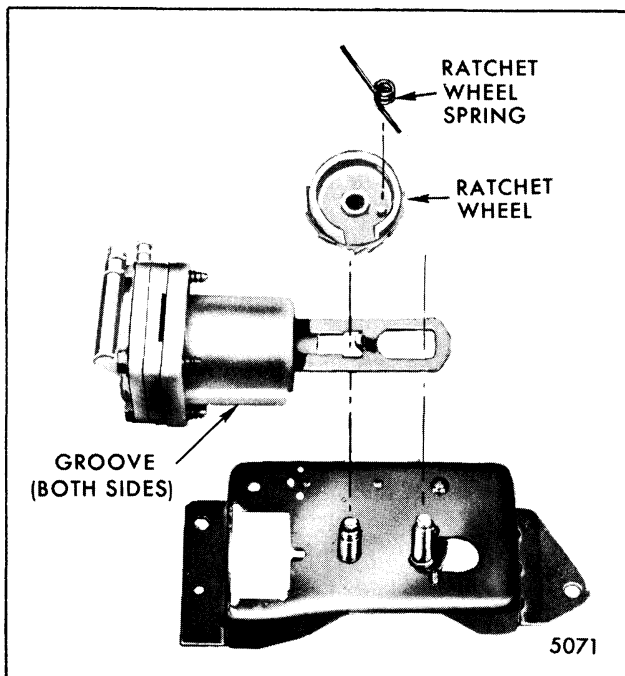

Fig. 2-65-Pump Ratchet Wheel
2. Move ratchet wheel spring out of shaft groove and slide ratchet wheel off its shaft (Fig. 2-65).